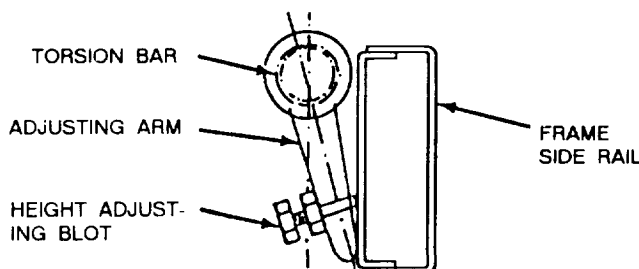

Figure 12-15.—Torsion bar adjusting bolt.
7. Check the vehicle height. If the vehicle uses torsion bars vice coil springs, adjust the height by turning the adjusting bolt (fig. 12-15).